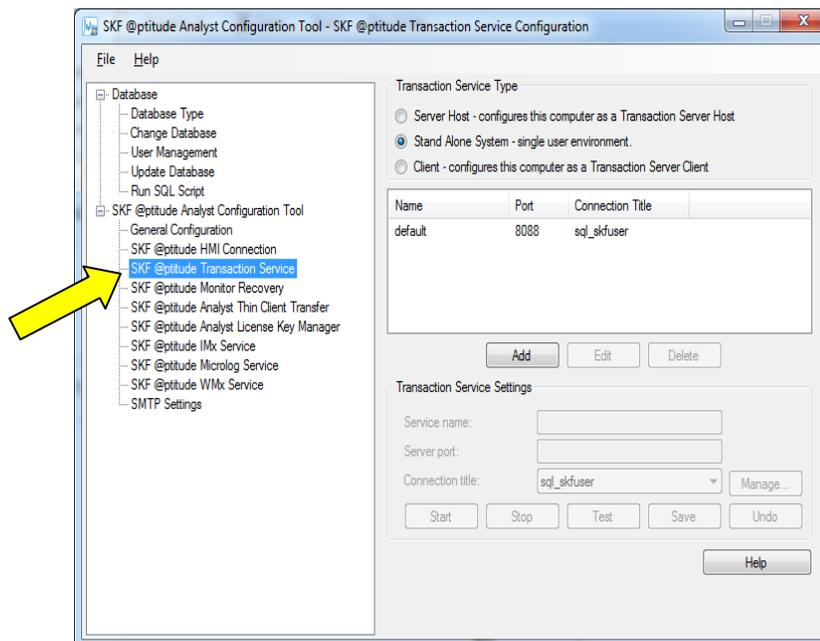

Figure 2. SKF @ptitude Transaction Service
2. Select **SKF @ptitude Transaction Service**. [Figure 2] Next, select the service from the list in the right pane, and then click **Start** to start the Transaction Service. If there are no services listed, click **Add** to create a new service.